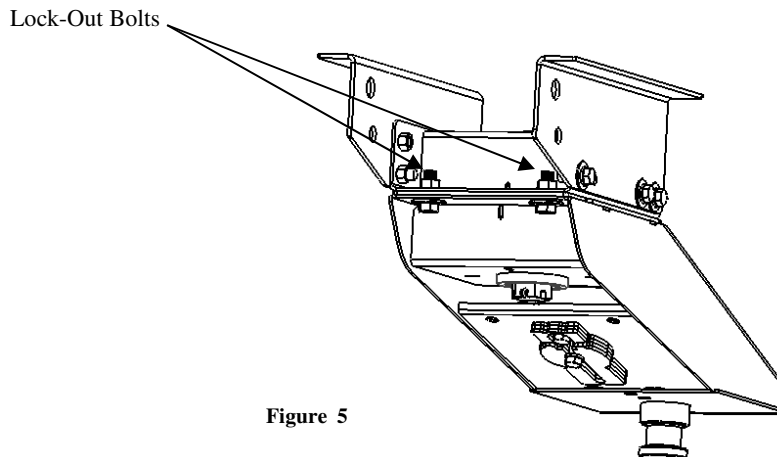

Figure 5
The Revolution Pin-Box is very versatile and can be used as a standard pin box – Conventional Transport. For conventional transport (2) 3/4" GR 5 Bolts and Hardware are installed in the back of the unit (figure 5), on OE applications these come installed from the factory and may or may not have been removed by the dealer. The two bolts prevent rotation and allow use of the pin-box without the wedge installed.
1. Remove (2) 3/4" Lock-Out bolts and hardware from the rear of the pin-box (figure 5). You can store them in the holes pointed to. (figure 6)
2. Remove the universal wedge from it's storage location by removing (2) 5/8-11 X 1 3/4" bolts and lock washers.